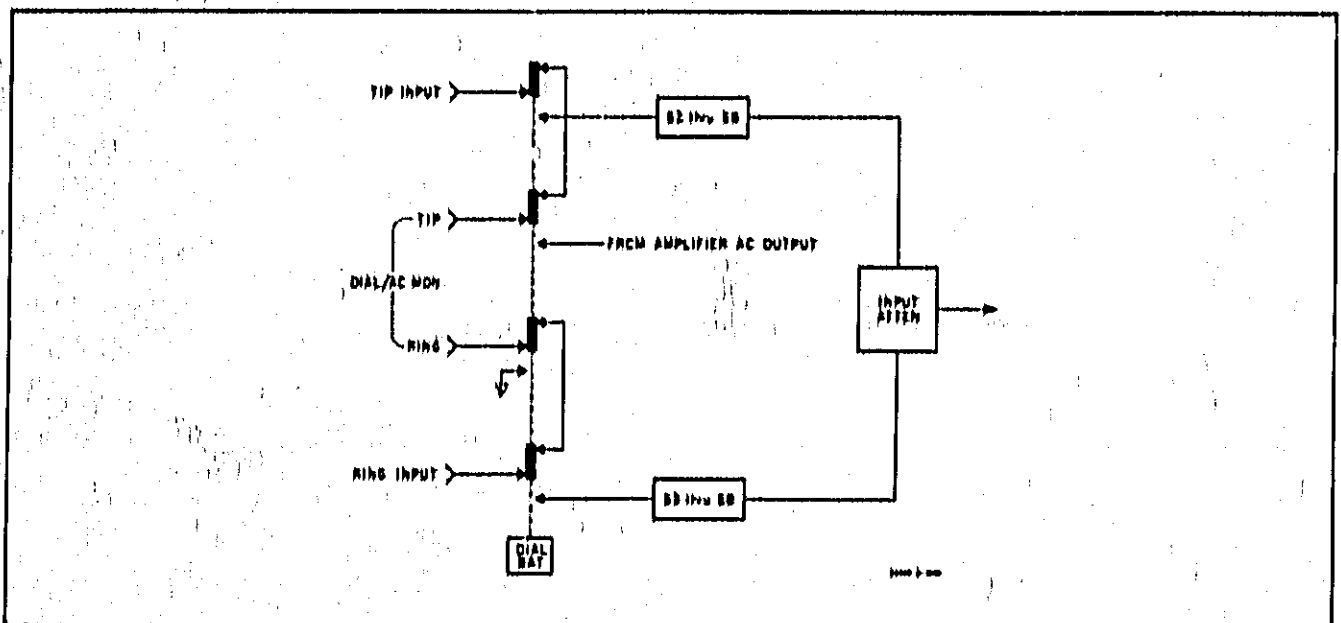

Figure 4-2. Simplified DIAL BAT Function
- b. DIAL BAT: (See Figure 4-2) The DIAL BAT pushbutton serves two purposes. First it disconnects the meter from the detector and connects it to the unregulated power supply so that the battery voltage can be monitored. Secondly, the DIAL/AC MON jacks are disconnected from the amplifier ac output and connected to the INPUT jacks. This permits connecting the lineman's handset to the balanced line for the purpose of dialing.